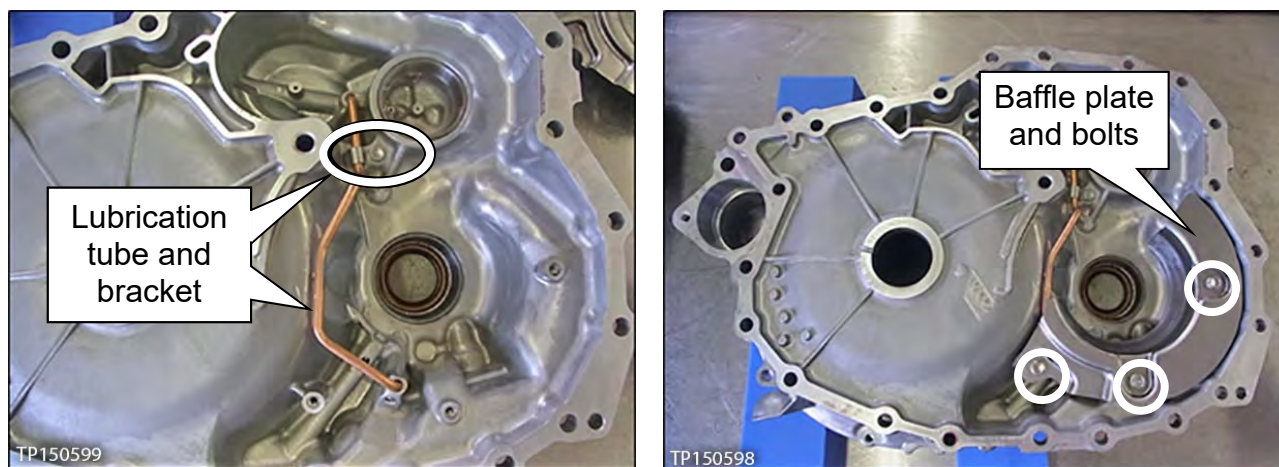

Figure 121
95. Install the lubrication tube, bracket and bolt, and then the baffle plate with three bolts (Figure 121).